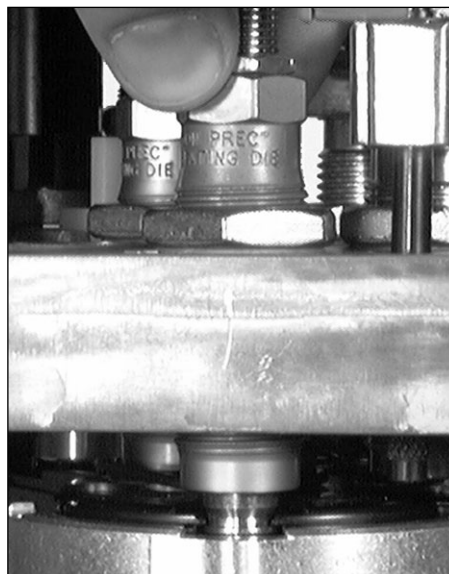

FIG 116
2. Thread the seating die into Station 4. Continue to screw it down until it contacts the case **FIG 116**. Once the die is in contact with the case back the die off (counter-clockwise) 1/4 of a turn. Using a 1" wrench snug the locking ring on the seating die.